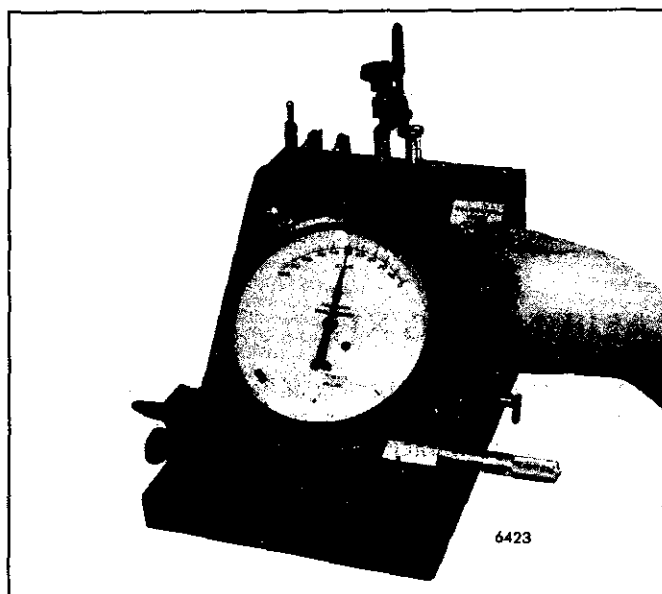

Fig. 13 – Adjusting the Calibrating Valve
- Adjust the calibrating valve, so that the gage needle is exactly at the "set line" (Fig. 13).